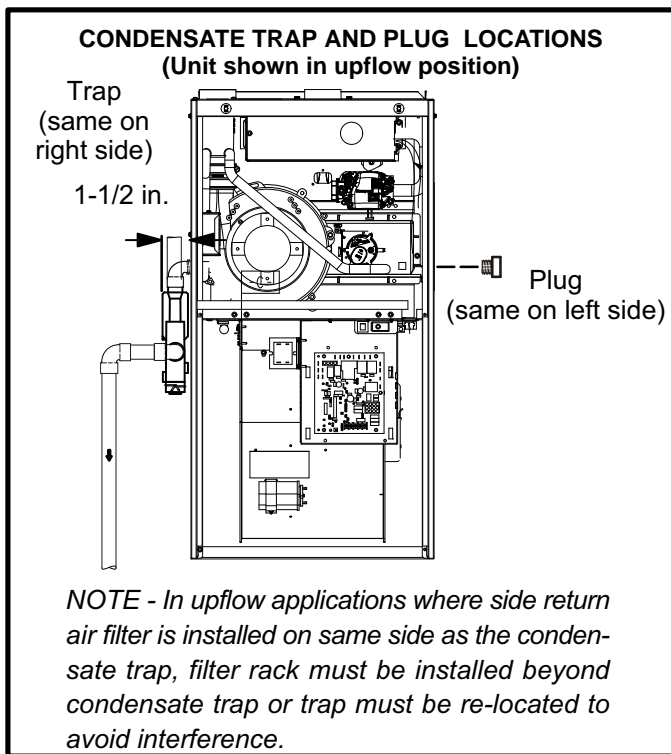
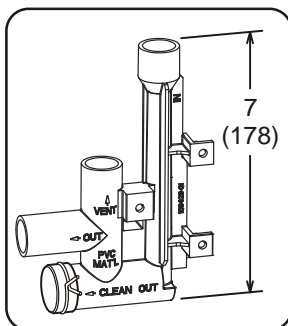

FIGURE 44
FIGURE 52
This unit is designed for either right- or left-side exit of condensate piping in upflow applications. In horizontal applications, the condensate trap must extend below the unit. An 8" service clearance is required for the condensate trap. Refer to figures 44 and 46 for condensate trap locations. Figure 52 shows trap assembly using 1/2" PVC or 3/4" PVC.
- 2 - Use a large flat head screw driver or a 1/2" drive socket extension and remove plug (figure 44) from the cold end header box at the appropriate location on the side of the unit. Install provided 3/4 NPT street elbow fitting into cold end header box. Use Teflon tape or appropriate pipe dope.
- 3 - Install the cap over the clean out opening at the base of the trap. Secure with clamp. See figure 52.
- 4 - Install drain trap using appropriate PVC fittings, glue all joints. Glue the provided drain trap as shown in figure 52. Route the condensate line to an open drain. *Condensate line must maintain a 1/4" downward slope from the furnace to the drain.*